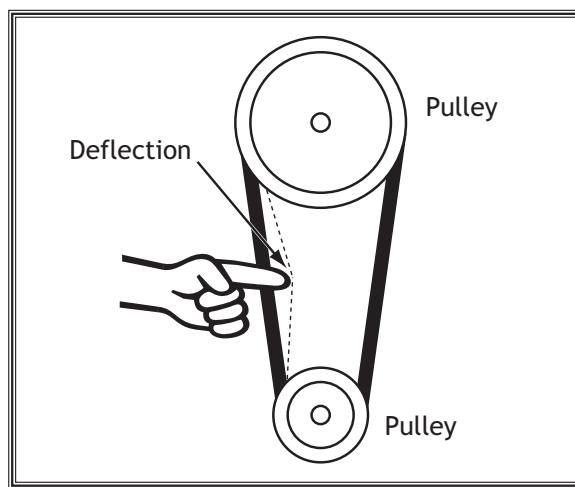

Figure 14. Checking belt deflection.
14. Push the center of the V-belt as illustrated in **Figure 14**, using moderate force. When tensioned correctly, the deflection should be approximately $\frac{1}{4}$ ".